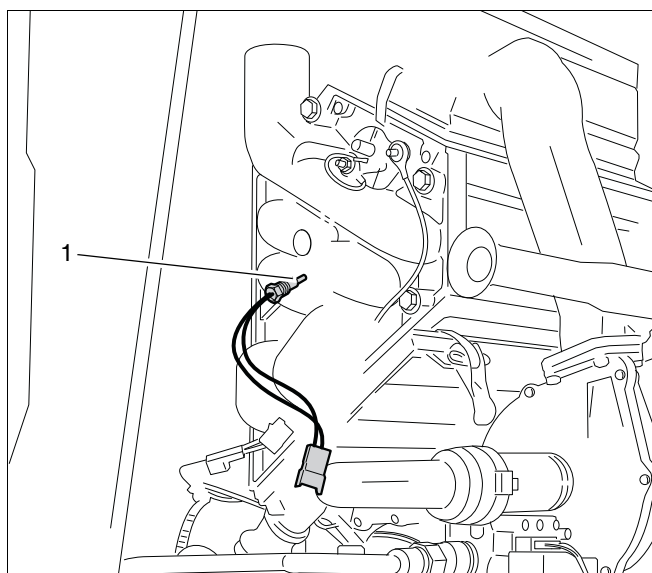

fig. 95 Dismantling the safety sensor
- Dismantle the safety sensor (see fig. 95, pos. 1).